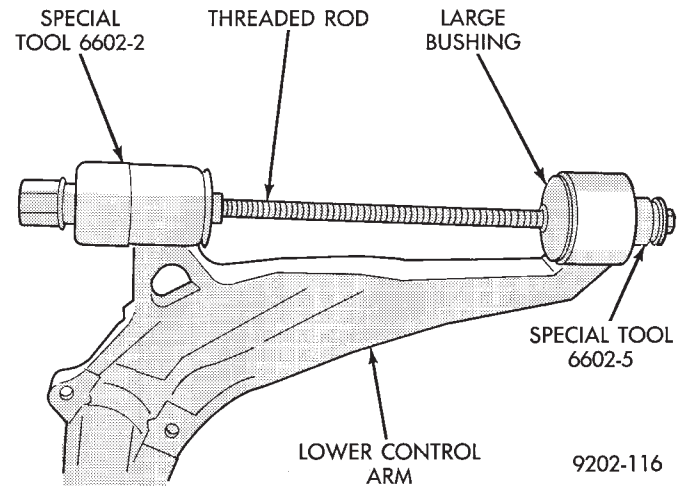

Fig. 4 Tool Assembled For Bushing Removal
(3) Install the tools assembled in step 2 above into the large bushing of the lower control arm (Fig. 4). Then assemble the remaining Special Tools, Cup 6602-2, thrust bearing, washer and long nut onto the threaded rod (Fig. 4) from Bushing Remover/Installer, Special Tool 6602.